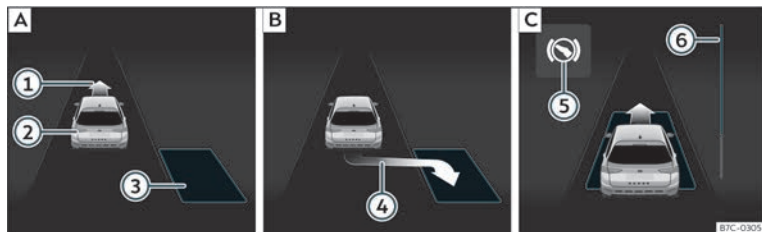
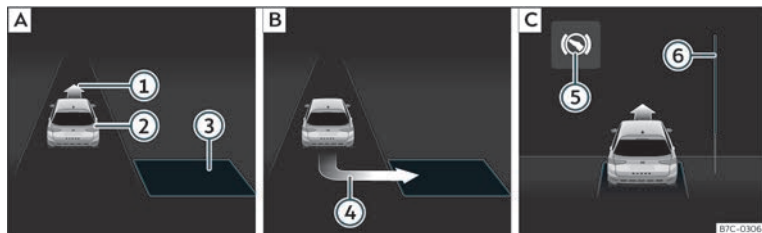

Fig. 180 On the instrument panel display: parallel parking. **A** Finding a parking space. **B** Parking position. **C** Manoeuvring.
Fig. 181 On the instrument panel display: angle parking. **A** Finding a parking space. **B** Parking position. **C** Manoeuvring.
- Look at the display on the instrument panel to see if the space has been detected as “appropriate” and if the correct position for parking has been reached»» **Fig. 180 B** or»» **Fig. 181 B**. The space is considered
- Reverse until the continuous ParkPilot signal sounds; **OR:** reverse until the indication to move forward appears on the instrument panel display >>> Fig. 180 [C] or >>> Fig. 181 [C]; **OR:** reverse until the **Park Assist finished** message appears on the instrument panel display. The progress bar ⑥ indicates the distance to cover >>> page 257.
- Press the brake pedal until the parking assist system completes the steering wheel turns; **OR:** until the symbol (S) goes out on the instrument panel screen.
- Move forward until the continuous ParkPilot signal sounds; **OR:** move forward until the reverse indication appears on the instrument panel display. The Park Assist system steers the vehicle forward and back until it centres it in the space >>> Fig. 180 [C] or >>> Fig. 181 [C].
The progress bar >>> Fig. 180 ⑥ and >>> Fig. 181 ⑥ on the screen of the instrument panel displays the relative distance to be covered. The greater the distance, the fuller the progress bar. When driving forward, the content of the progress bar decreases upwards, and when reversing, it decreases downwards.